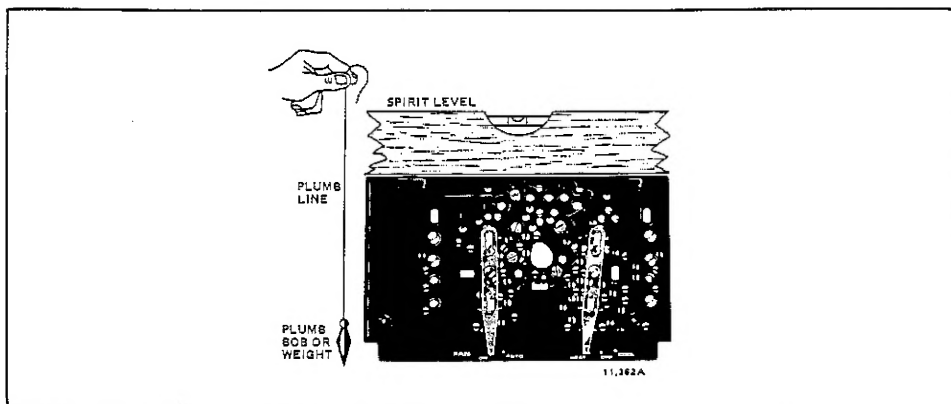

Fig. 3—Leveling methods for wallplate or subbase.
- ☐ Carefully level the wallplate or subbase (Fig. 3) and firmly tighten screws.